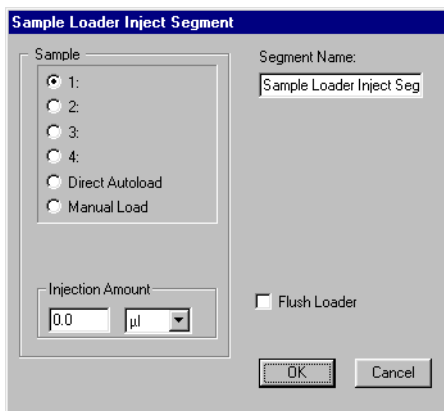

Figure 6-10 Inject Segment Setup Dialog Box
2. Click the Segment I button to display the Inject Segment Setup dialog box (Figure 6-10).